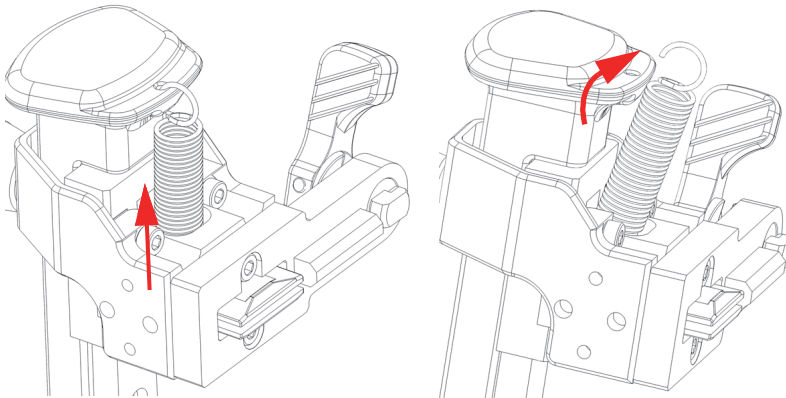

Figure 2-27 Removal of the spring
2. Remove the top part of the spring from the hole in the SLA lift handle (Figure 2-27 on page 56).